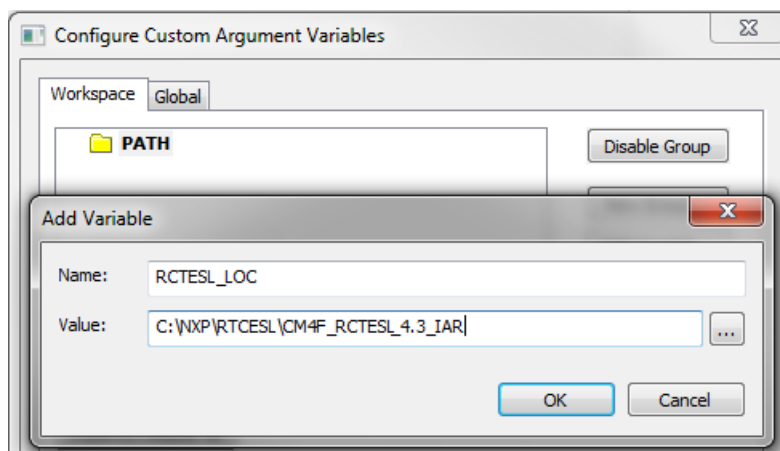

Figure 1-31. New variable
6. In the main dialog, click OK. See Figure 1-31.